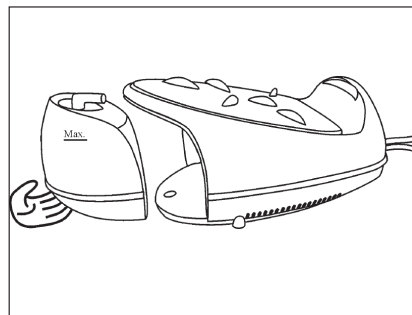

Fig 8
4. Replace the anti-cal cartridge and reinstall the water tank as Fig. 8.